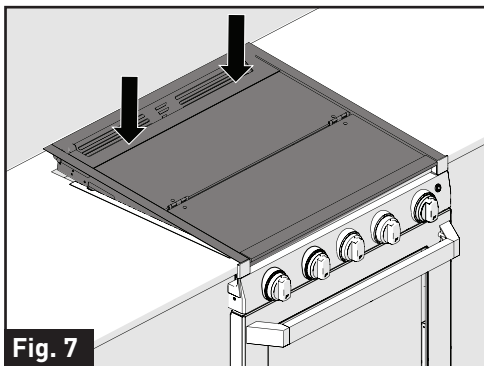

Fig. 7
8. Press the backside of the top glass cover until you hear a click noise. The top glass cover is now locked into place. (Fig. 7)